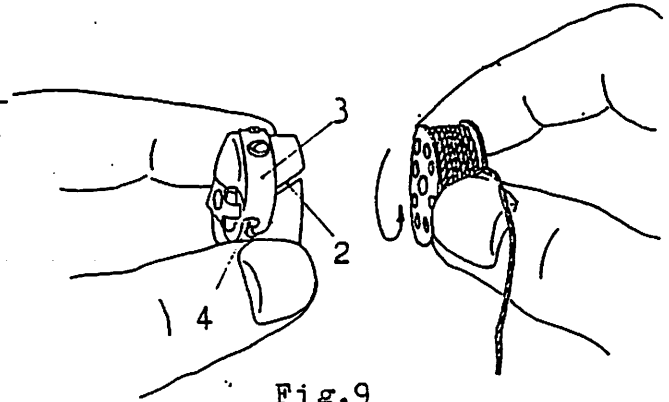

Fig.9
3. Hold the threaded bobbin and hook cap between the thumb and forefinger of your hands as shown Fig.9 and place the threaded bobbin into hook cap, and guide the thread into the slot(2, Fig 9) and lead the thread under the tension spring(2, Fig 9) and lead into the delivery eye(4, Fig 9).